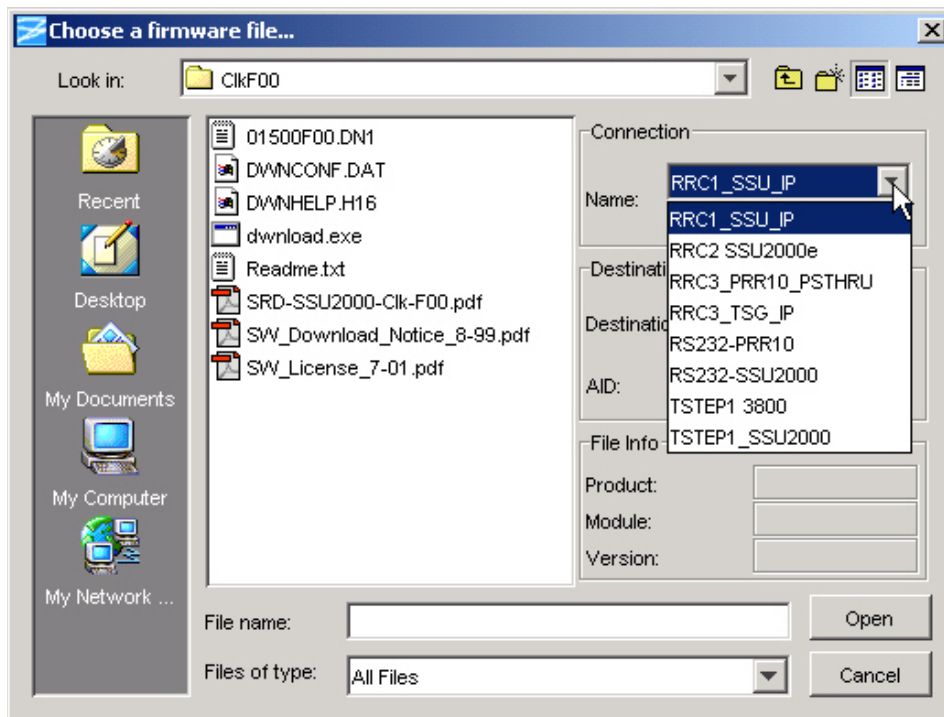

Figure H-13. Selecting the SSU-2000 to be Upgraded
13. Ensure that the name of the SSU-2000 you want to upgrade appears in the Connection Name drop-down list, as shown in Figure H-13.